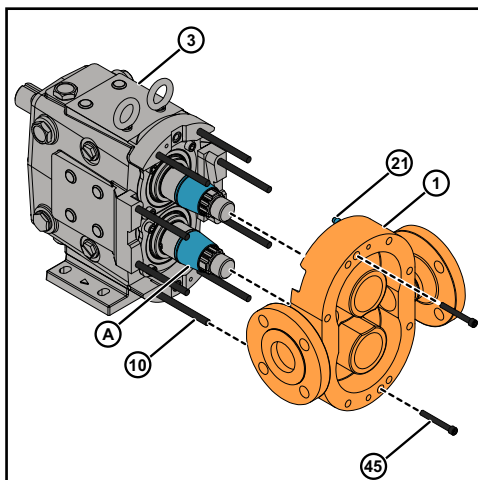

Figure 124 - Install pump body
1. Install the Installation guide (A) on both shafts to avoid damaging the lip seals as the pump body is drawn over the shafts. Ensure the front face of Installation guide is attached to the back face of sleeve, as shown in Figure 124.
2. Match the large and small dowel pin (21 & 23) sizes on the pump body (1) with the dowel pin holes in the pump gear case (3).
3. Install the pump body (1) to the gear case assembly (3), aligning the pump body with the body studs (10) and gradually tighten the two cap screw(45).